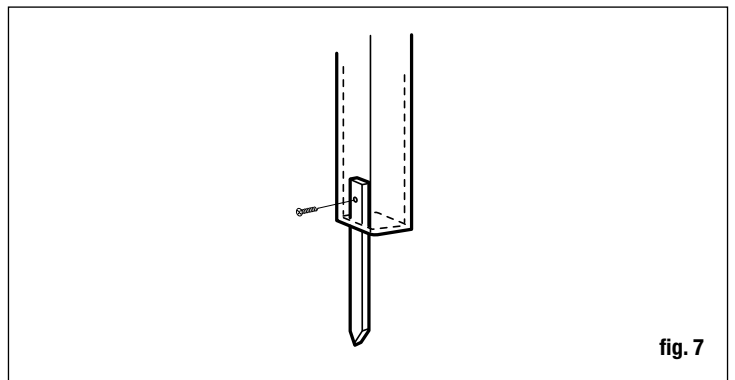

fig. 7
- Attach each post to its corresponding stake by drilling through the post and into the wooden stake using a 7/8" screw (fig. 7).
- Conecte cada poste a su estaca correspondiente taladrando a través del poste y la estaca de madera y colocando luego un tornillo de 7/8" (fig. 7).